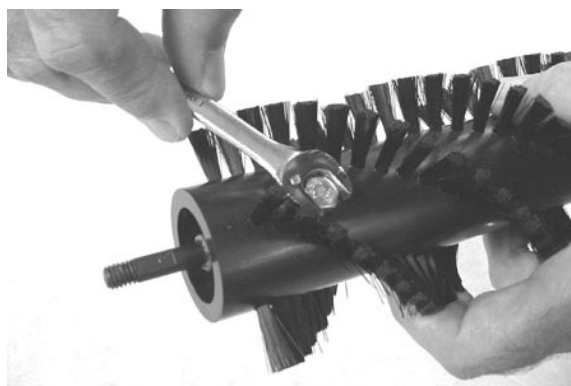

FIG. 5
5. Remove (4) bolts that attach brush to brush shaft and remove old brush (Figure 5).